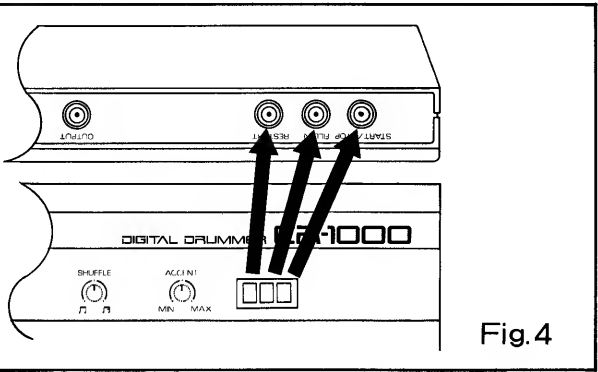

Fig.4
- 1) Press START/STOP. Each digit of the 7-segment LEDs corresponds to START/STOP, FILL IN and RESTART jacks, respectively, as shown in Fig. 4.